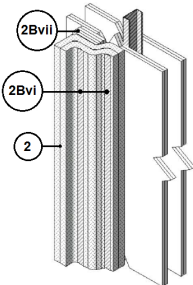

Figure 6. Wall Anchoring
- iv. Insulation Anchors: Floor/Ceiling Application – Use min. 16 GA, min. 1-1/2 in. wide steel sheet strips, and min. 1/4 in. diameter hex-head concrete anchors, spaced to match the longitudinal pin spacing shown in Figure 1. Position the floor/ceiling anchors over a min. 6 in. wide horizontal flange of the flared duct insulation (Item 2) which is in contact with the floor/ceiling assembly. Position the anchors such that the duct insulation extends a min. 1-1/2 in. beyond the anchors. Refer to Figure 6.
- v. Insulation Anchors: Wall Application – Use min. 16 GA, min. 1-1/2 in. wide steel sheet strips. For concrete or masonry wall, fasten the duct insulation (Item 2) to the wall using min. 1/4 in. diameter hex-head concrete or masonry anchors as applicable, and spaced to match the longitudinal pin spacing shown in Figure 1. For gypsum wall, use min. 1/4 in. diameter hex-head self-drilling screws spaced to match the longitudinal pin spacing shown in Figure 1. Position the wall anchors over a min. 6 in. wide flange of the flared duct insulation (Item 2) which is in contact with the wall assembly. Position the anchors such that the duct insulation extends a min. 1-1/2 in. beyond the anchors. Refer to Figure 6. For steel stud and gypsum wall attachment, ensure that studs are positioned in line with the wall anchors.
- vi. Gypsum Anchor Protection Boards: For installation onto steel stud and gypsum wall, use three layers of 6 in. wide, 5/8 in. Type X gypsum board strips, mounted vertically onto the gypsum wall under the duct insulation (Item 2) and adjacent to the wall anchors (Item 2Bvi) as shown in Figure 6. Attach the gypsum wall anchor boards with #10 drywall Type G laminating screws spaced 24 in. on center (oc). Secure the insulation blanket (Item 2) to the gypsum wall anchor board using wall anchors (Item 2Bvi) consisting of min. 16 GA, min. 1-1/2 in. wide steel sheet strips and #10 drywall Type G laminating screws spaced to match the longitudinal pin spacing shown in Figure 1.